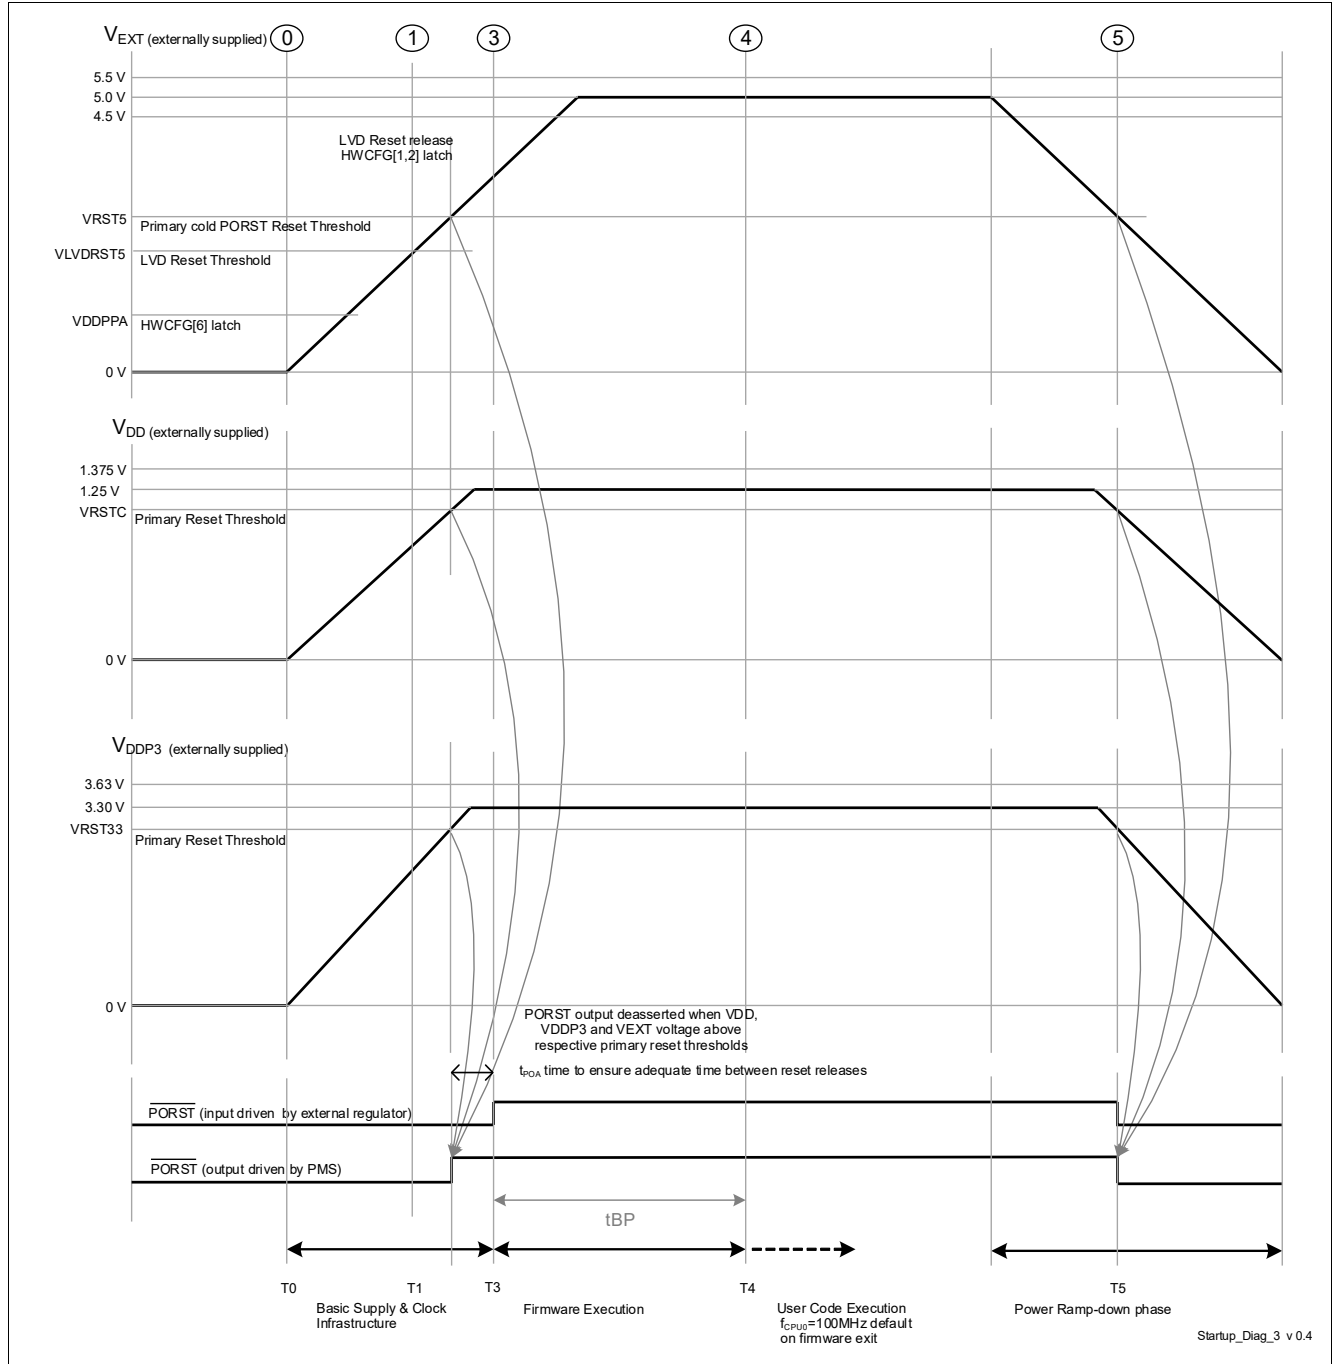

Figure 3-6 External Supply mode (h) - V_{EXT} , V_{DDP3} & V_{DD} externally supplied
- The power sequence as shown in Figure 3-6 is enumerated below